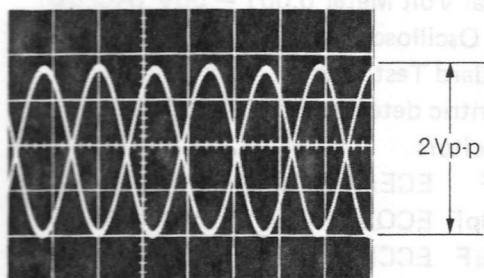

Fig. 2
Step 4 Looking at both CH1 and CH2 adjust the output of the oscillator so that the waveform amplitude on the oscilloscope is 2Vp-p. (Ref. Fig. 2)